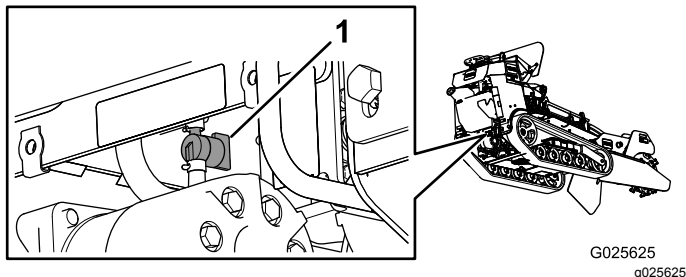

Figure 41
4. Turn the fuel-shutoff valve to the closed position (Figure 41).
5. Squeeze the ends of the hose clamp on the engine side of the valve together and slide it up the fuel line away from the valve (Figure 41).
6. Pull the fuel line off the valve (Figure 41).